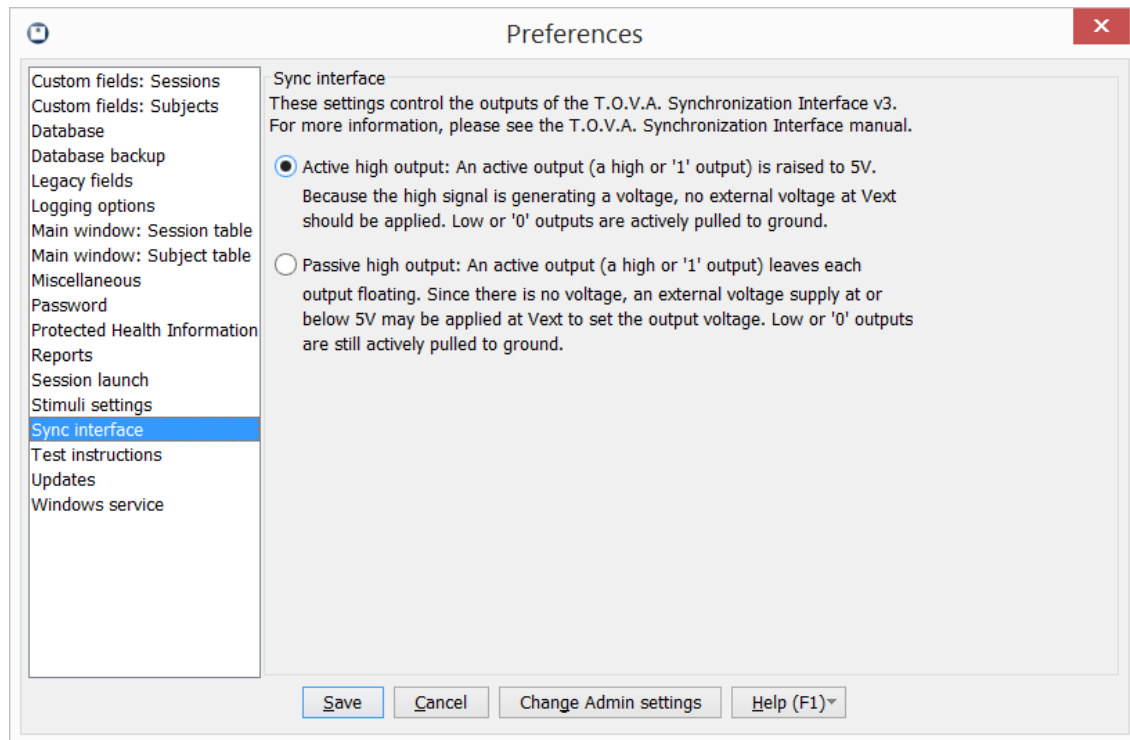

Figure 5: Configuring the Sync Interface preferences in the Preferences dialog
7. In the Sync interface preferences (see Figure 5), choose either "Active high output" or "Passive high output".